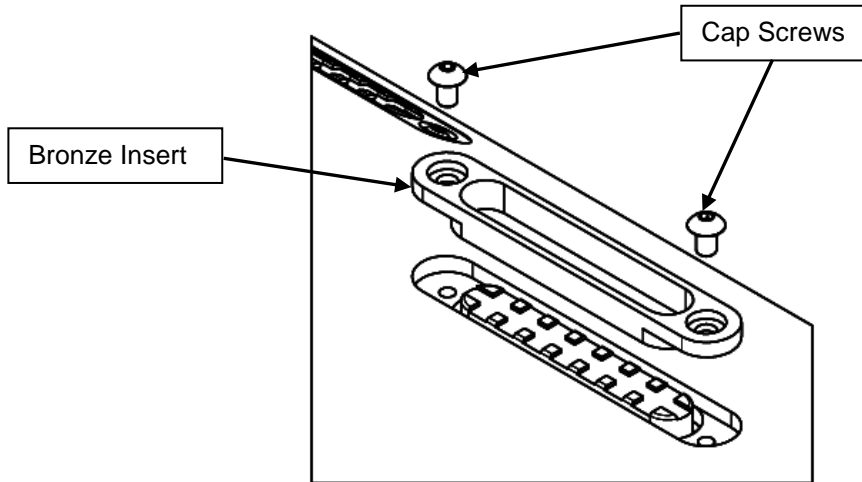

Figure 4 – Bronze Wear Insert
1. Remove both button head cap screws (Refer to Figure 4).